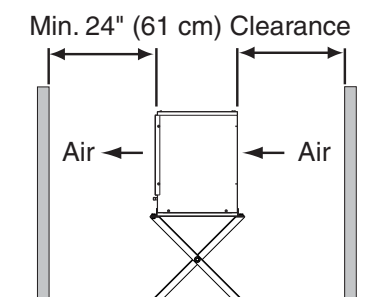

Fig. 6
- A dry and well ventilated area with 24" (61 cm) clearance at front and rear for proper air circulation and ease of maintenance and/or service should they be required. See Fig. 6.